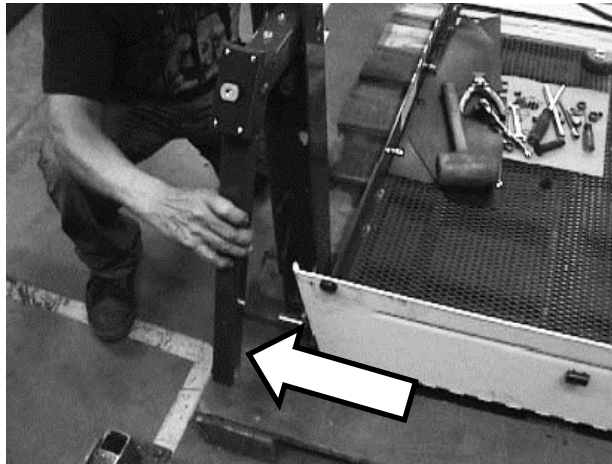

Figure 10. Detach Knuckle Link Arm
10. Refer to **Figure 10**. Detach the knuckle link arm from the platform stud.